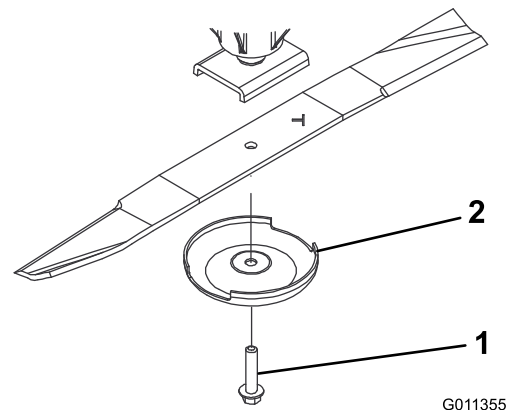

Figure 63
2. Grasp the end of the blade using a rag or thickly padded glove. Remove the blade bolt, anti-scalp cup, and blade from the spindle shaft (Figure 63).
3. Install the blade, sail facing toward the cutting deck, with the anti-scalp cup and blade bolt (Figure 63). Tighten the blade bolt to 115 to 149 N·m (85 to 110 ft-lb).
If the blade is allowed to wear, a slot will form between the sail and flat part of the blade (Figure 63). Eventually a piece of the blade may break off and be thrown from under the housing, possibly resulting in serious injury to yourself or bystanders.